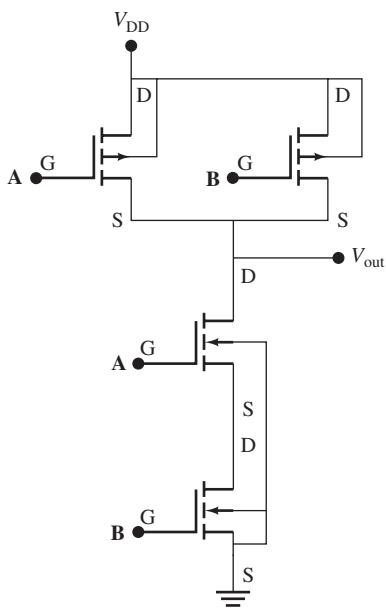

FIGURE P8.64 A CMOS circuit that functions as a gate.
- 8.64** (A)* Sketch the truth table of a two-input OR gate for the circuit shown in Figure P8.64. That is, determine the output voltage, V_{out} , in terms of inputs A and B when they are high (1) or low (0), for example, when both are 0, when both are 1, and when one is 0 and the other is 1. What is this operation?